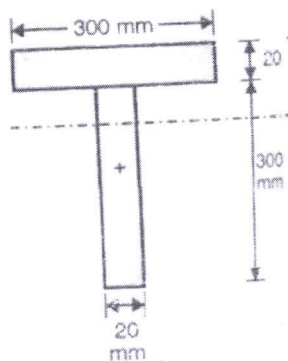

Fig.6
- Q7) a) A 'T' section shown in fig.6 for material of section of the permissible stresses in compression and tension are 60 N/mm^2 and 100 N/mm^2 respectively. Decide whether T section should be placed with flange in tension at bottom and in compression at top to obtain maximum moment of resistance. Calculate maximum moment of resistance and comparison of the moment of resistance in these two positions. [10]